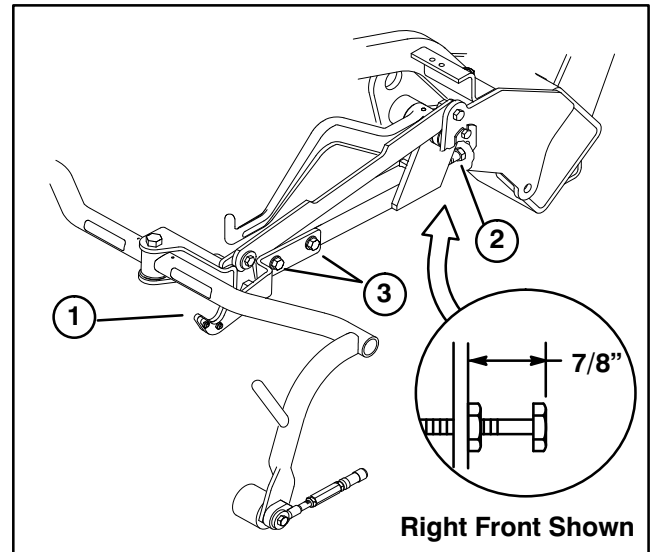

Figure 14
Check transport height (Fig. 14) and adjust, if required, as follows:
2. Verify that the distance from the top of the carrier frame adjusting screw (Fig. 14) and back of carrier frame is 7/8".
6. If carrier frames are not at the same height, loosen the jam nut on the carrier frame adjusting screw (Fig. 14). Rotate the screw outward to raise and inward to lower. Tighten the jam nut after proper height is obtained.